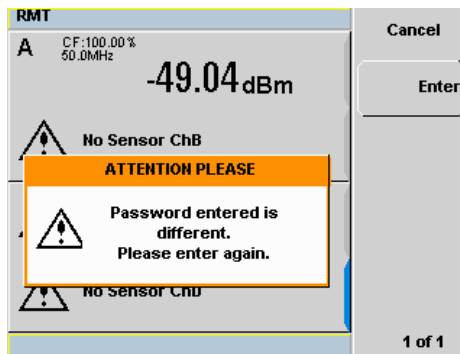

Figure 2-47 Warning message
- 7 A warning message pop-up will be displayed if the password entered is different from the initial password (see Figure 2-47). This warning will appear for two seconds before the enter password pop-up is displayed again.